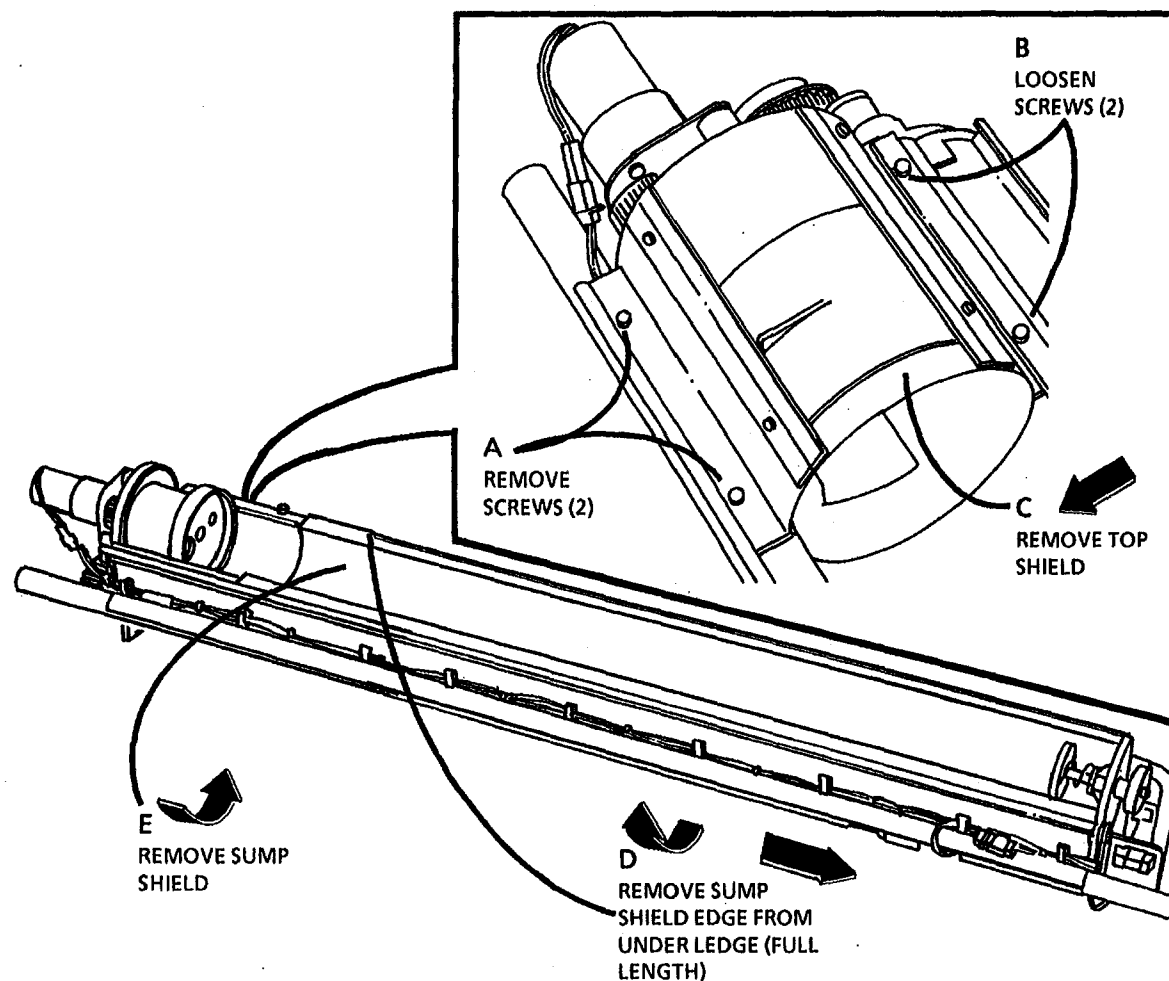

Figure 8. Removing the Sump Shield
14. (Figure 8): Remove the Sump Shield.